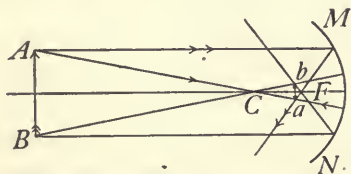

FIG. 360.—Real image formed by a concave mirror.
is a regular concave surface, like the inner surface of a sphere, the rays of light coming from a point source may after reflection come to a focus, forming a real image. The two extreme points of an object should be selected for locating its image; Fig. 360 shows the construction. The real images formed by concave mirrors are always inverted. The principal focus of a concave mirror may be observed by holding the mirror in a beam of sunlight entering a darkened room. The sun's rays after reflection converge to form a small, round, intense spot of light, which is a real image of the sun, located at the principal focus of the mirror. The distance of the principal focus from the mirror is the least distance that a real image can be formed in front of a concave mirror.
of these positions may be located, namely; (1) *experimentally*, by allowing the rays of light from a luminous body to focus on a screen and (2) *diagrammatically*. By the latter method the two rays of light are considered the course of each of which may easily be determined; first, the ray which strikes the mirror parallel to its principal axis and which after reflection passes through the principal focus; second, the ray which passing through the center of curvature strikes the mirror at right angles and therefore after reflection must pass directly back along its incident path. Where these two reflected rays intersect is located the real image of the object. Whenever these two rays of light do actually intersect, as in Fig. 360, a real image (*ab*) is formed of the object *AB*.